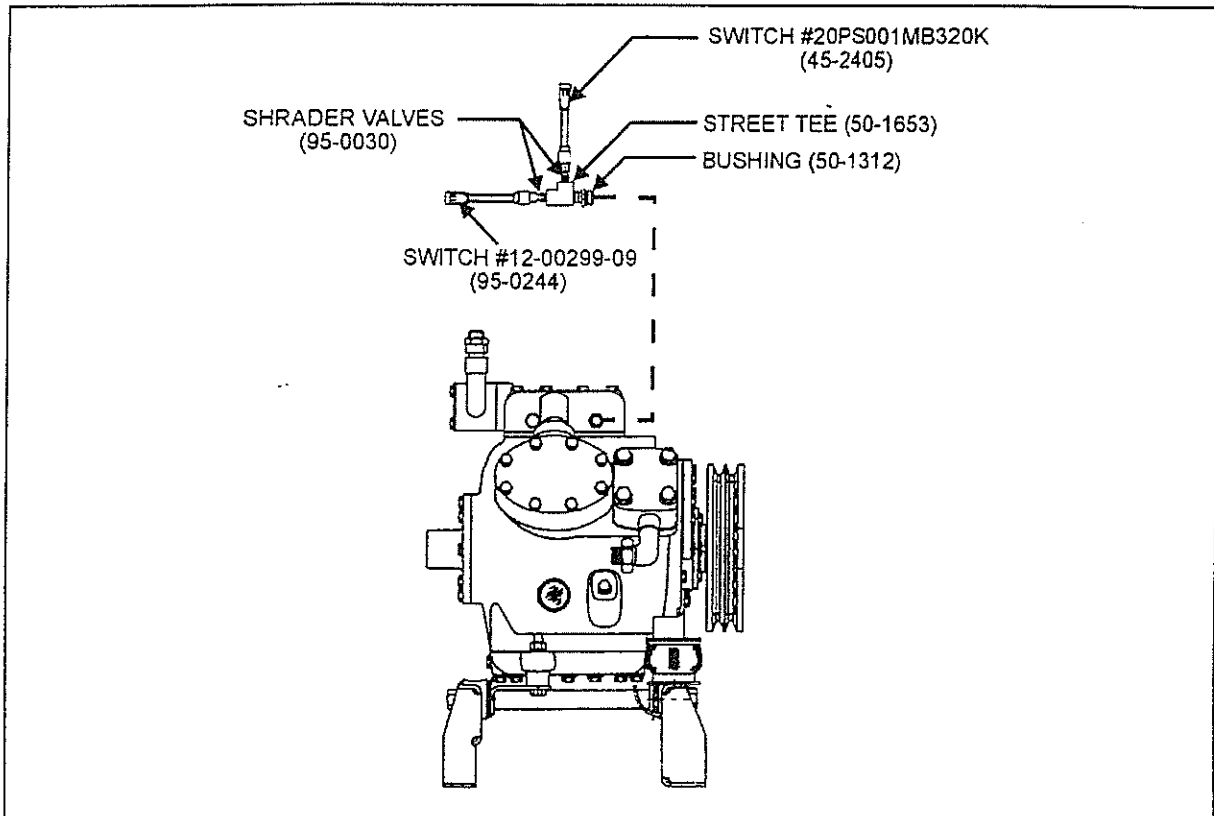

Fig. 3 - Pressure Switch Installation (Pressure side)
4. Remove and discard the high pressure switch (and bushing or elbow if applicable) from compressor head. Install a bushing (#50-1312), a street tee (#50-1653), then two "Schrader" valves (#95-0030) as illustrated in figure 3.
5. Install the high pressure switch (#45-2405) and the high pressure unload switch (#95-0244) on "Schrader" valves as illustrated in figure 3.
9. Connect the existing female connector (C-52) to the High Pressure Switch #20PS001MB320K (Prevost #45-2405) illustrated in figure 3.